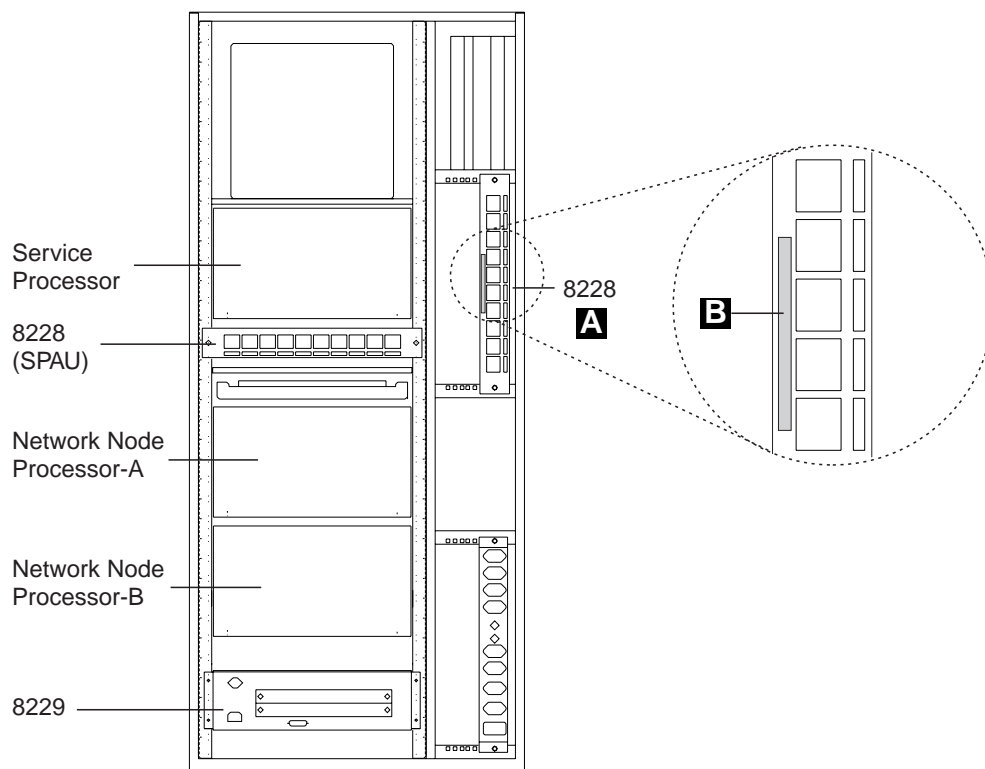

Figure 2-20. Installing One Ethernet Bridge in the Controller Expansion-A (Rear View)
- g. \_\_\_\_ Refer to Figure 2-20, and install vertically the 8228 **A** on the rear side of the controller expansion-A using two screws (PN 1621232) and two captive nuts (PN 58G5766). Using label **B** (PN 782964), identify the 8228 as Ethernet Bridge Access Unit-A